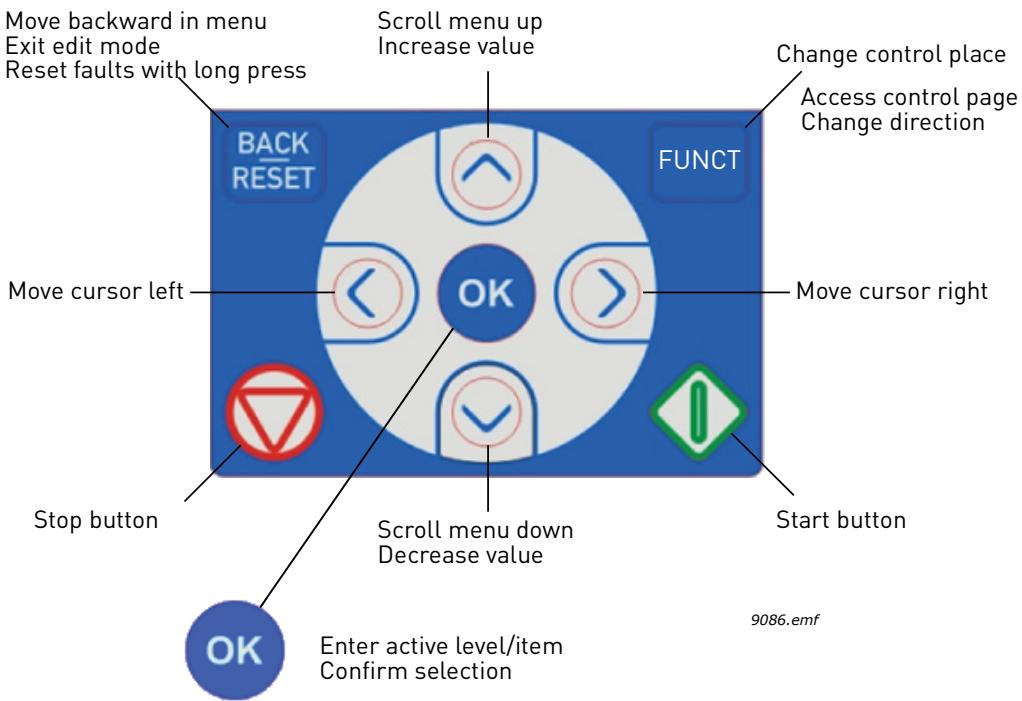

Figure 13. Keypad buttons
**The Location field indicates your current location. The Status field gives information about the present status of the drive.** See Figure 13.